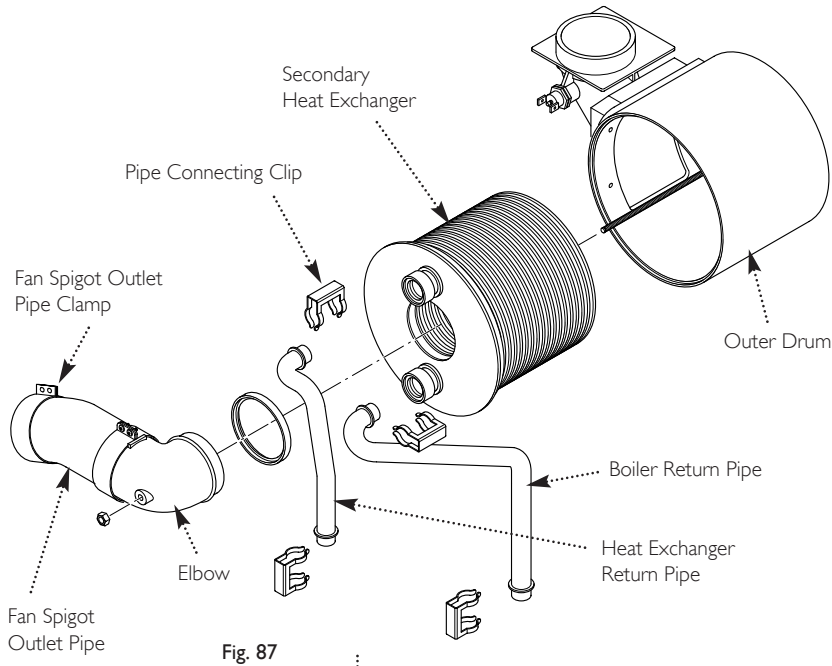

Fig. 87
14.24 Secondary Heat Exchanger (Fig. 87)